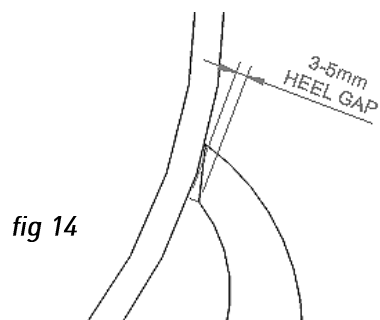
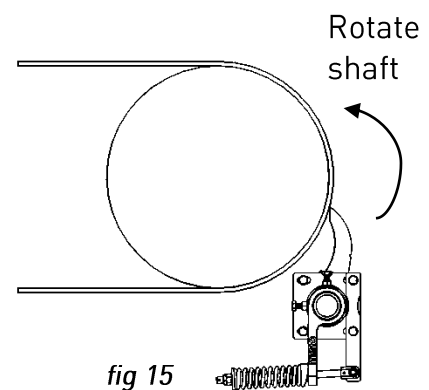

fig 14
fig 15
(fig 14, fig 15)
- Once tensioning assembly is installed to cleaner use the spring tensioning chart (fig.15) to set blade tension to belt.